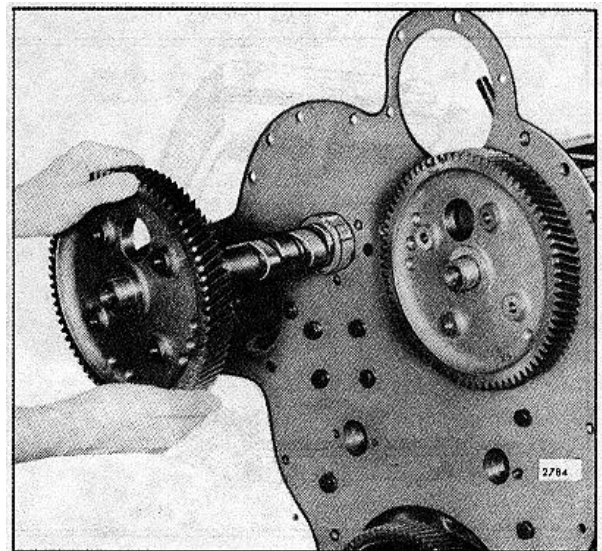

FIG.5 - Removing or Installing Camshaft
16. Withdraw each camshaft, bearing and gear assembly from the cylinder block as shown in Fig. 5.